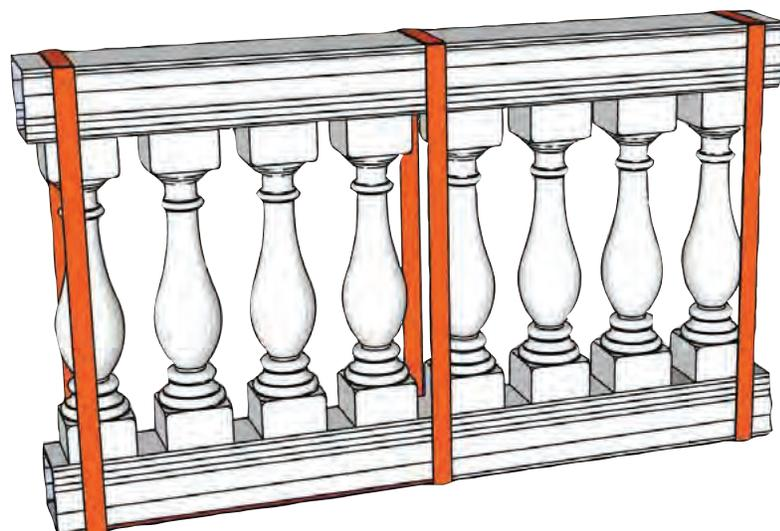

Figure 4
5. Assemble Each Section (Figure 4)